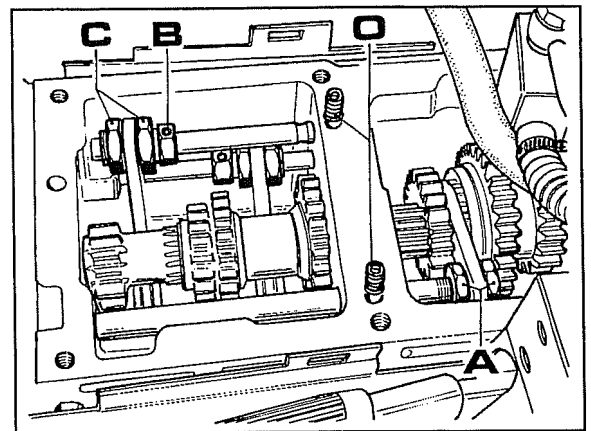
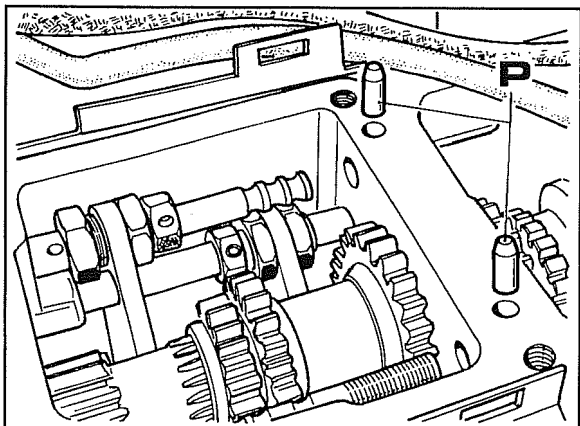

Fig. 4
Fig. 5
Caution: when lifting up the cover, make sure that spring **O** Fig.4 does not drop into the oil inside the transmission casing. Then remove the balls.
- 4 Release the creep range rod by slackening off nuts **A** Fig.4 and then slip it out forward.
- 5 Free the gear change rod by slackening off nuts **C** Fig.4. Remove pin **B** to be able to do this and the slip the rod out as shown in Fig. 5.
- 6 Insert the new holding pins **P** (if not present) as shown in Fig. 5.